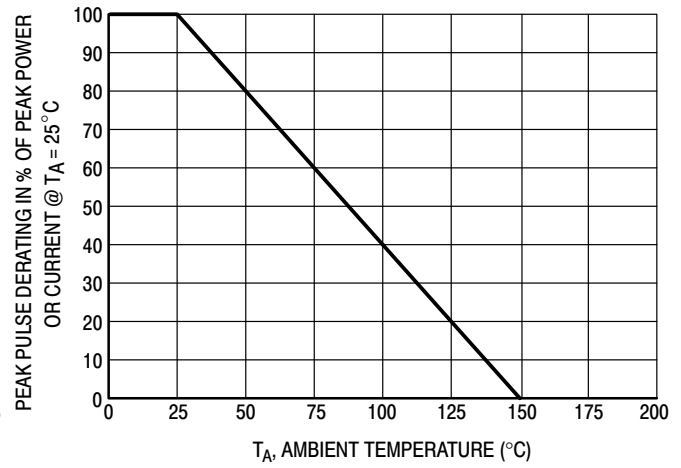
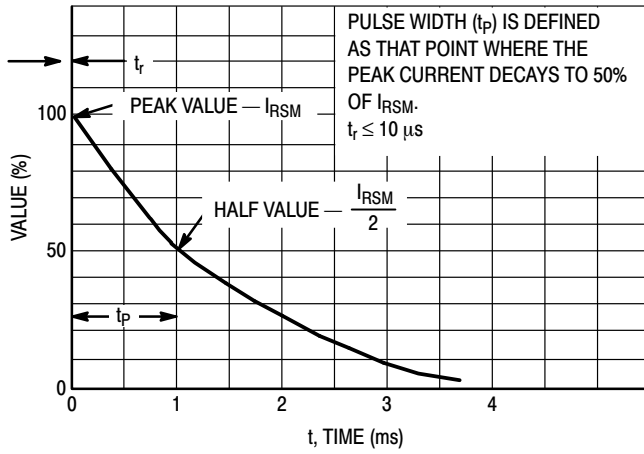
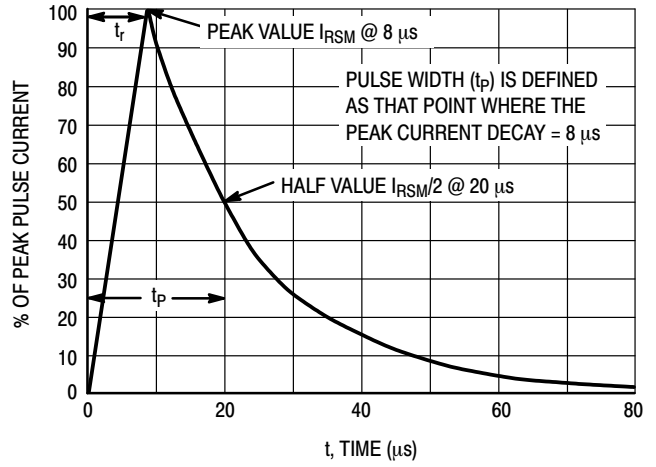

Figure 4. Pulse Derating Curve
Figure 5. $10 \times 1000 \mu s$ Pulse Waveform
Figure 6. $8 \times 20 \mu s$ Pulse Waveform
- Peak Power – Min. 24 W @ 1.0 ms (Unidirectional), per Figure 5 Waveform
- Peak Power – Min. 150 W @ 20 μ s (Unidirectional), per Figure 6 Waveform
1. Non-repetitive current pulse per Figure 5 and derate above $T_A = 25^\circ\text{C}$ per Figure 4.
2. Non-repetitive current pulse per Figure 6 and derate above $T_A = 25^\circ\text{C}$ per Figure 4.
8. Surge current waveform per Figure 5 and derate per Figure 4.